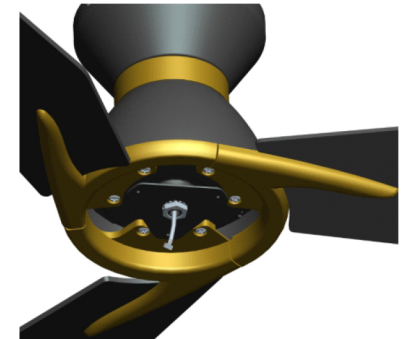

Fig. 7.2
7.2 Install the three blade brackets with the installed blades onto the corresponding mounting holes of the motor as shown in Fig. 7.2.